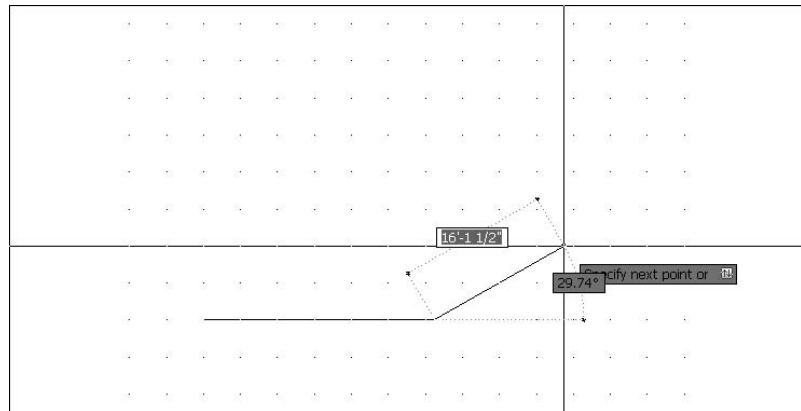

FIGURE 3.10: The first line of the cabin wall is drawn.
- Continue moving the crosshair cursor left or right until the ghosted linear dimension displays 25'. At this point, click the left mouse button to draw the first line of the cabin wall (see Figure 3.10).